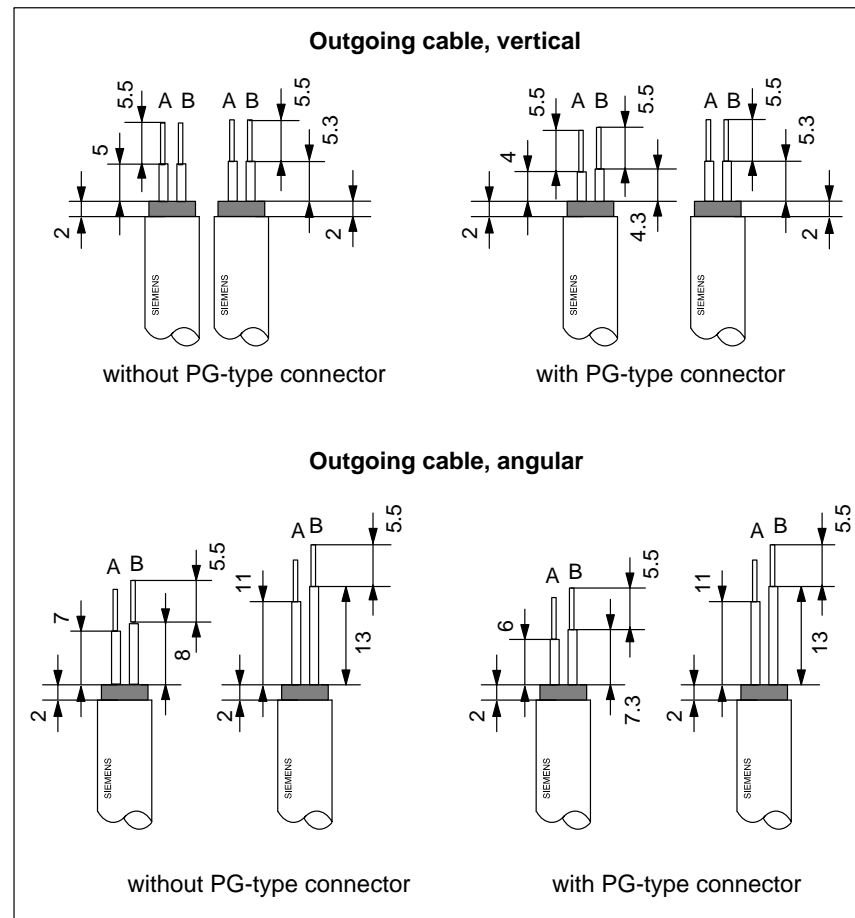

Figure 3-14 Length of Stripped Insulation for Connecting to the Bus Connector 6ES7 972-0B.20 ...
1. Strip the insulation off the bus cable as shown in Figure 3-14.